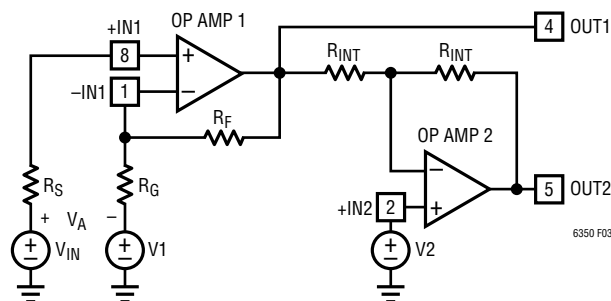

Figure 3. General Configuration
Because the input op amp presents its output and both its inputs to LT6350 pins, alternative configurations are possible. Consider the general configuration shown in Figure 3.
The simple connection described in the Basic Connections section can be seen as a special case of the general circuit in Figure 3 where R_F is a short circuit, R_G is an open circuit, and the voltage at V_{IN} is centered around the voltage V2. If differential gain greater than two is needed, the values of R_F and R_G can be adjusted in accordance with Equation (2). Additional information about feedback networks is given in the next section and in the Input Amplifier (Op Amp 1) Feedback Components section.
Although the previous examples have assumed the input signal is applied at +IN1, it is also possible to use the input op amp in an inverting configuration by fixing the voltage V_{IN} and applying the input signal at V1 of Figure 3. Using the input op amp in the inverting configuration fixes its input common mode voltage at the voltage V_{IN}, which allows the input signal at V1 to traverse a swing beyond the LT6350 supply rails. To avoid unwanted differential offsets in this configuration V_{IN} should be chosen such that:
When feedback resistors are used to set gain in op amp 1, care should be taken to ensure that the pole formed by the feedback resistors and the total capacitance at the inverting input, -IN1, does not degrade stability. For instance, to set the LT6350 in a differential gain of +4, R_F and R_G of Figure 3 could be set to 1k Ω . If the total capacitance at -IN1 (LT6350 plus PC board) were 3pF, a new pole would be formed in the loop response at 106MHz, which could lead to ringing in the step response. A capacitor connected across the feedback resistor and having the same value